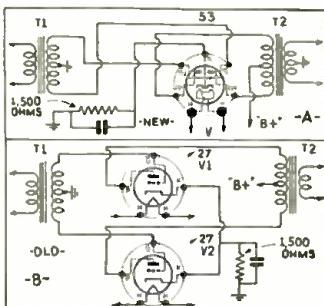

Fig. 6, above. Replacing 27 tubes.
**R**EPLACING TYPE 27 TUBES. A single type 53 tube may be used to replace push-pull 27s in many cases with a consequent saving in space and current drain. All the original resistors, and other equipment are used. The original bias resistor of the 27s was found to give fine results. The results obtained from these converted stages are as good if not better than those of the original. Both are shown in Fig. 6.